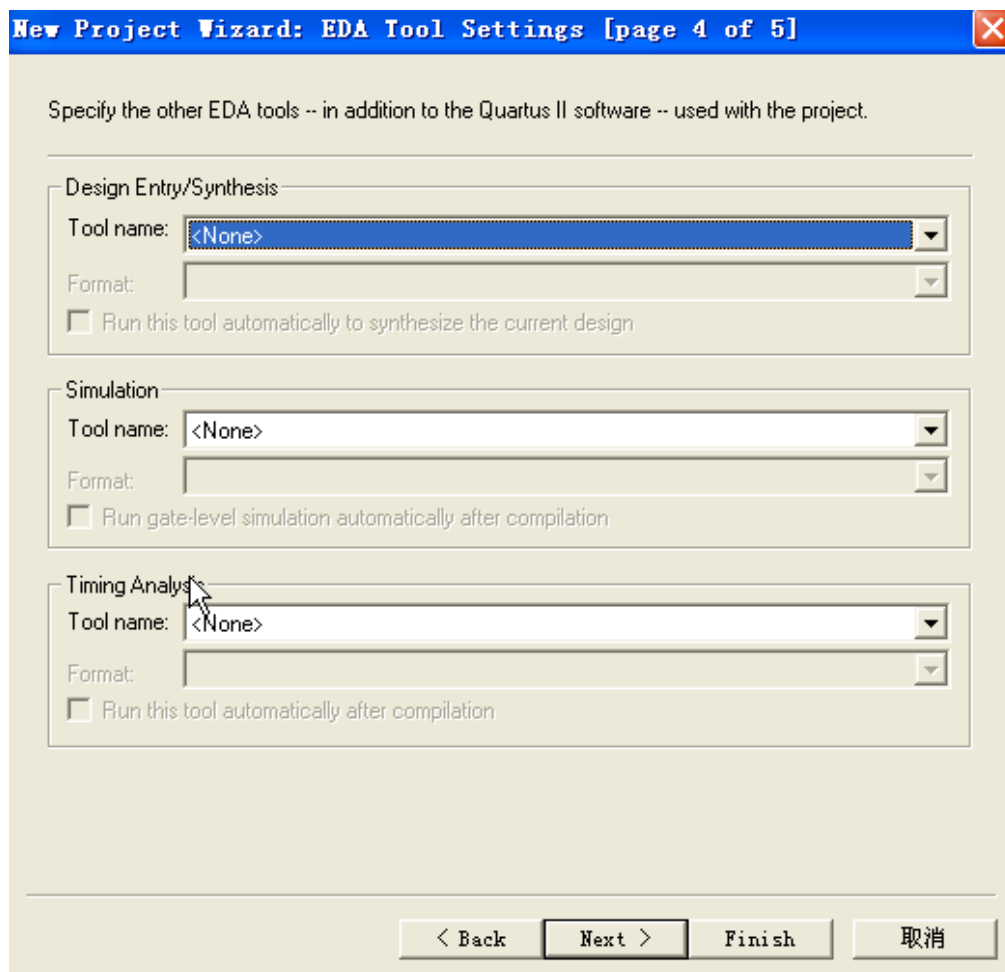

Figure 9. Other EDA tools can be specified.
4. We have to specify the type of device in which the designed circuit will be implemented. Choose Cyclone IV as the target device family. We can let Quartus II software select a specific device in the family, or we can choose the device explicitly. We will take the latter approach. From the list of available devices, choose the device called EP4CE115F29C7 which is the FPGA used on Altera's DE2-115 board. Press "**Next**", which opens the window in Figure 9.